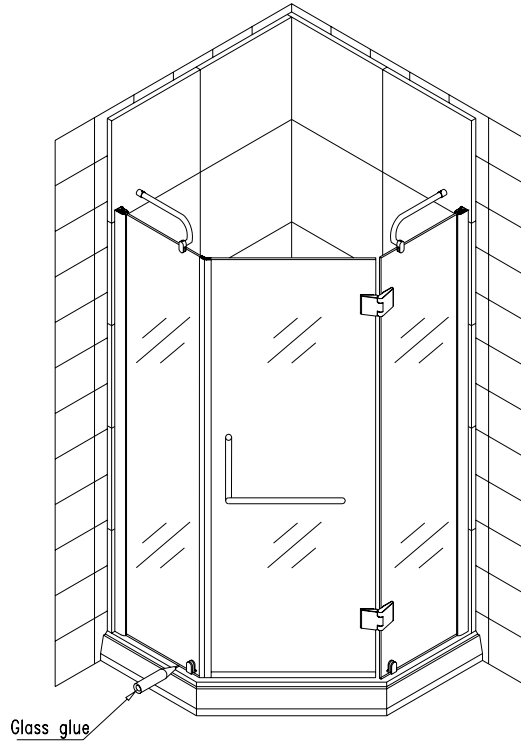

Fig 8
9. Seal with silicone between wall profile, glass profile and tray (fig 8).